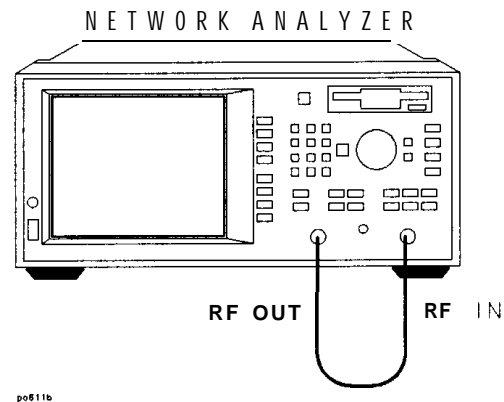

Figure 2-6. Equipment Setup for Transmission Measurement
1. Connect the equipment as shown in Figure 2-6. Use a known good cable such as the one that was supplied with your analyzer.